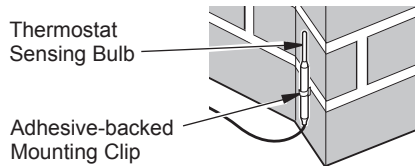

Figure 45 - Locating Thermostat Sensing Bulb on Masonry Fireplace
3. The thermostat sensing bulb may be located to the lower right front side of fireplace. Determine location of sensing bulb, but do not mount sensing bulb until step 4. If you have a masonry fireplace, see Figure 45 for location.